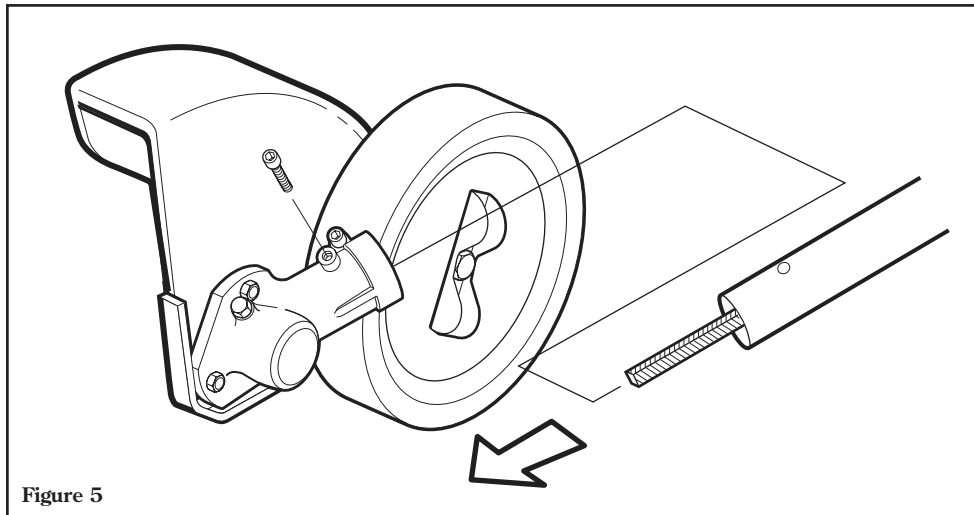

Figure 5
3. Slide the gearcase oriented as shown in Figure 5 onto the shaft tube insuring that the flex drive is engaged in the gearcase.